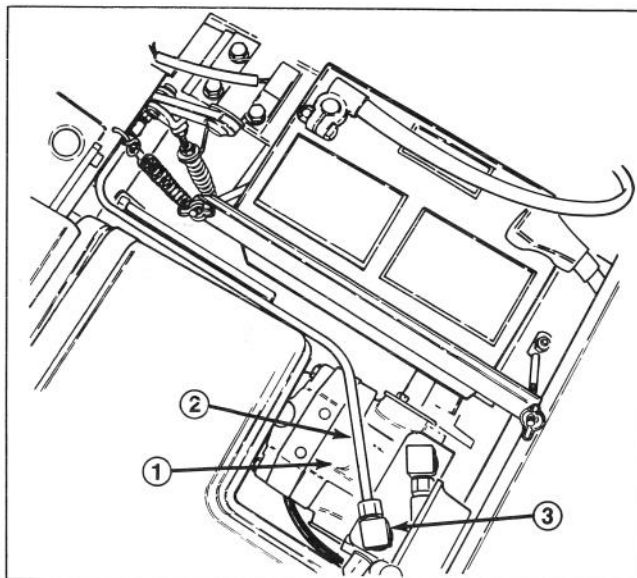

Figure 5
3. Remove and discard the steel line running from the transmission to the main lift valve (Fig. 5).